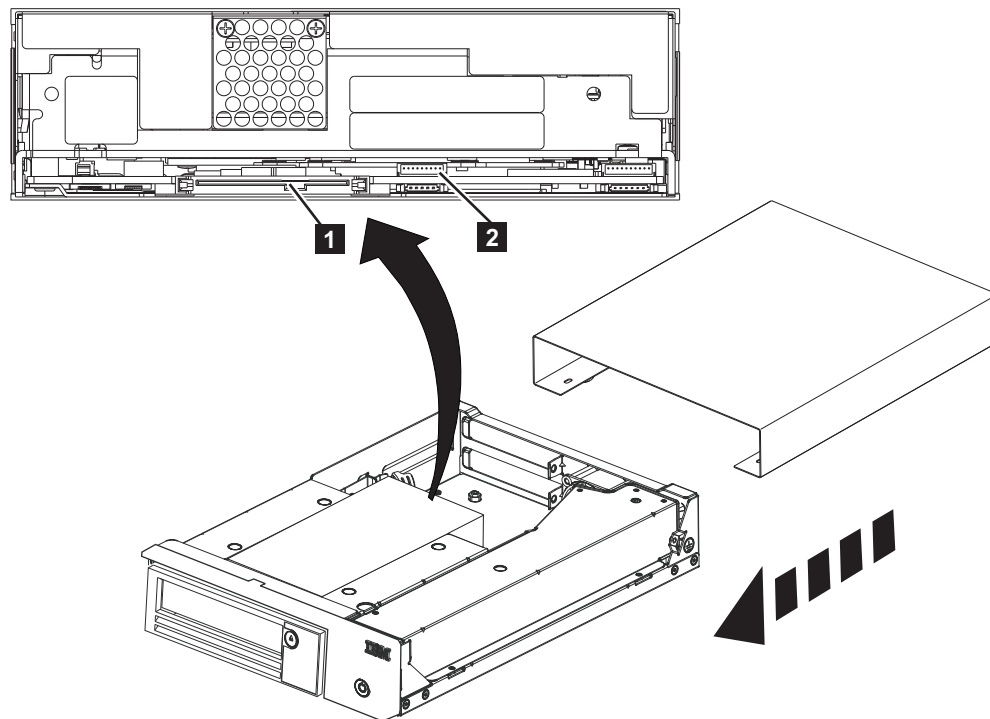

Figure 32. Removing cables from the internal drive
6. Gently push the drive 's rear panel to remove the chassis from the cover (see Figure 32 on page 85).
1. Unplug the SAS interface cable and the ethernet interface cable (**1** and **2** in Figure 32) from the drive. Disconnecting the internal SAS interface cable disconnects both the SAS interface and electrical power from the drive.